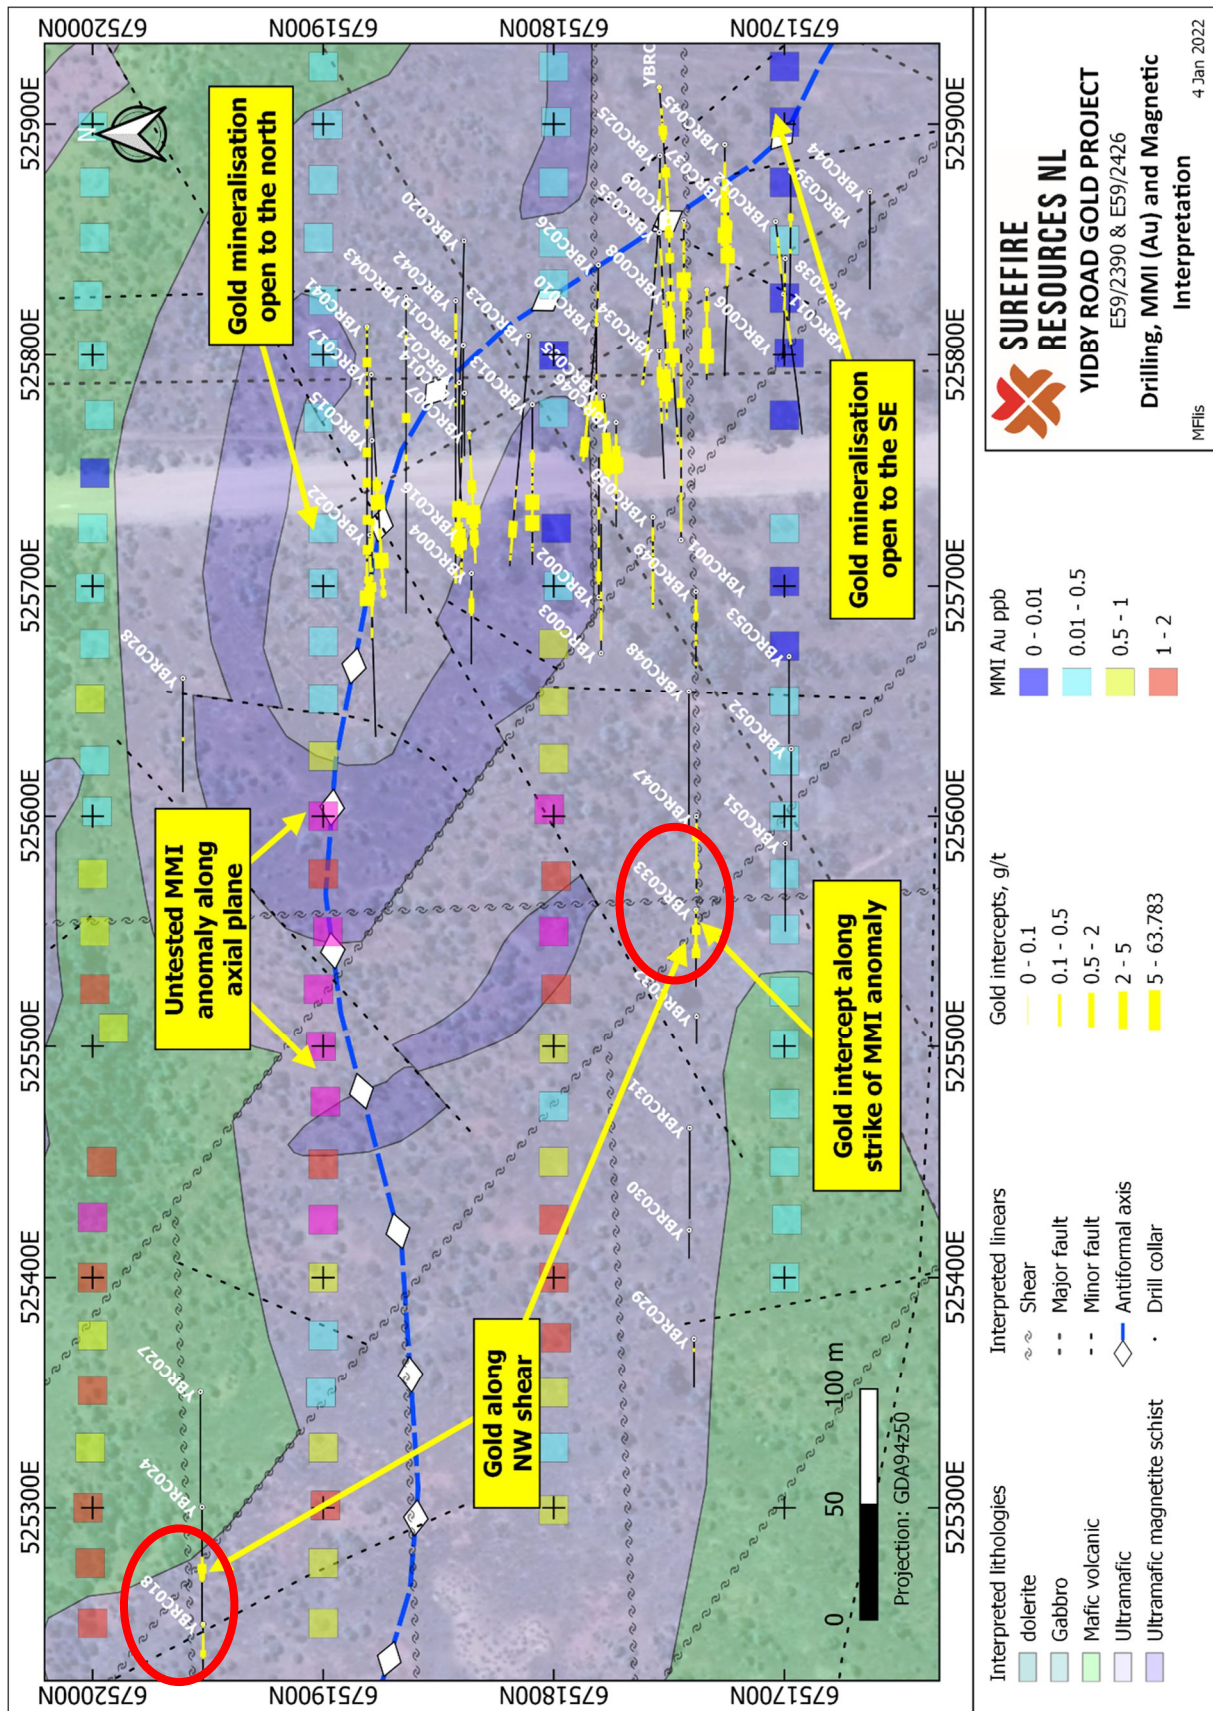

Figure 3 Hole locations from recent drilling. Holes with no gold intercepts are awaiting assays.
A total of seventeen (17) RC holes for 1,271m were drilled to test several of the MMI gold anomalies as shown in Figure 3, below. Initial drilling results have successfully intersected shallow and wide down hole zones of gold mineralisation.